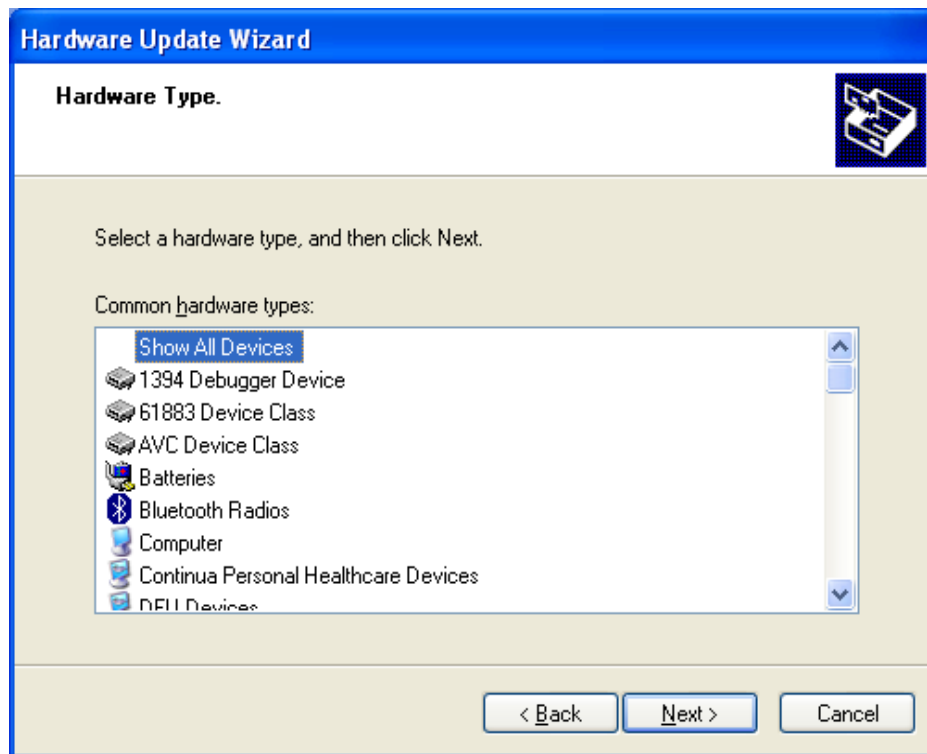

Figure K-13. Hardware type window
Step 4. Hardware Type Window appears, select Show All Devices option, and click Next button. Click Have Disk button when Select device driver window appears (Figure K-13).